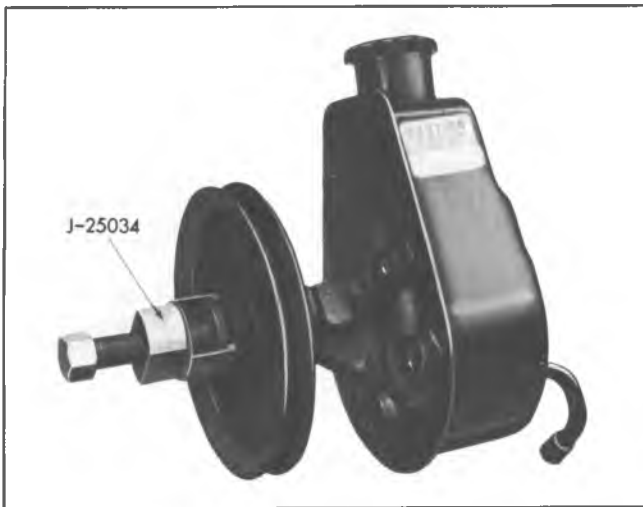

Fig. 1—Power Steering Pump Pulley Removal
1. Remove pump pulley by using tool J-25034 as shown in Figure 1.